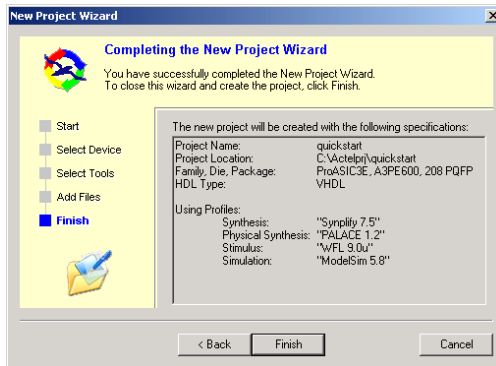

Figure 3-6. Summary in New Project Wizard (Libero IDE)
- Review your project information. Click **Finish** to close the Wizard and create your new project (Figure 3-6). Click **Back** to return to any step of the Wizard and correct information in your project.